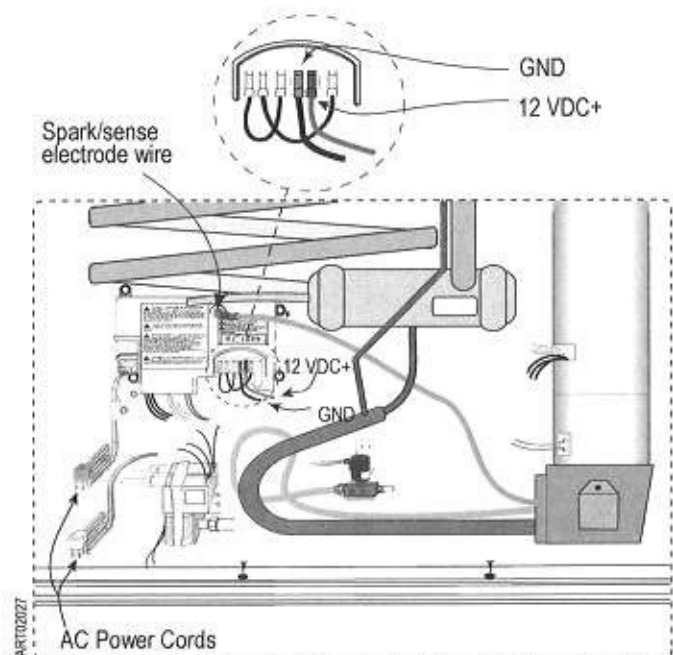

Figure 2. Power Board (as seen through exterior air intake vent)
3. Disconnect the refrigerator's black 120 AC power cord from the RV receptacle. Refer to Figure 2.
5. Disconnect the RV's 12 VDC+ power at the power board. If necessary, tape the RV's connector to prevent shorts and blown fuses. Refer to Figure 2.
- Take care to prevent damage to the terminal and wire end as you carefully disconnect the high voltage spark/sense electrode wire from the power board. Refer to Figure 2.